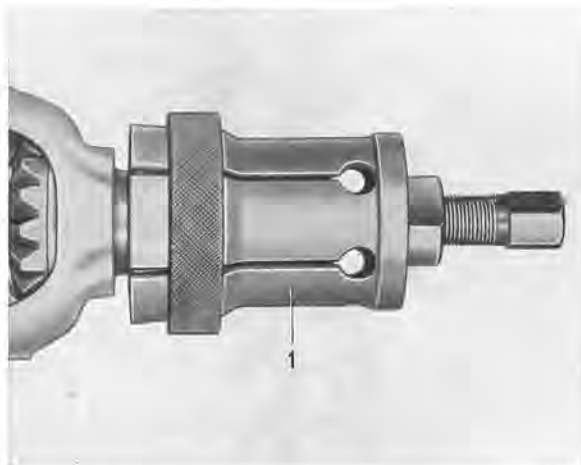

Fig. 4-152. Removing differential carrier bearings
1. Pull off the differential carrier bearings with puller 2483, see Fig. 4-152. Take care of the shims.